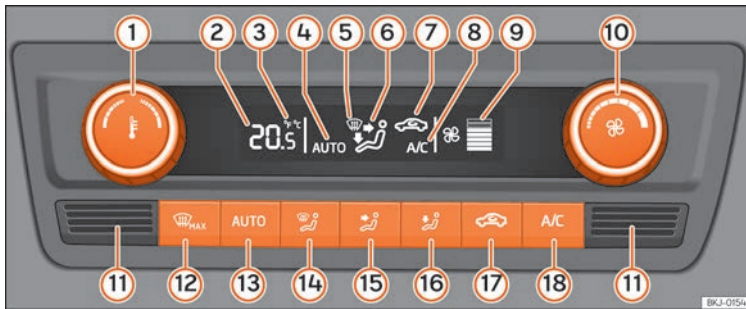

Fig. 170 Climatronic: controls.
- **A/C** »» Fig. 170 (18) turned on.
- Turn control (10) to the left until the segments of column (9) »» Fig. 170 switch off.
- Press the button **AUTO**  »» **Fig. 170**.
Keep the **AUTO** and **A/C** »» **Fig. 170** buttons held down for **2 seconds** at the same time. The data is displayed on the screen in the units required.
- **The interior temperature sensor  »» **Fig. 170** is at the bottom. Do not cover it with stickers or the like, as this could have a negative effect on Climatronic operations.**
- Press the button **AUTO**  »» **Fig. 170**, and **AUTO** is displayed on the screen.
- When you switch on the ignition, control  »» **Fig. 170** can be used to set the required interior temperature.
- Press the button   »» **Fig. 170** and the  symbol is displayed on the screen.
- Press the button   »» **Fig. 170** and the  symbol disappears from the screen.
- Turn control **10** »» Fig. 170 counter-clockwise (to lower the speed) or clockwise (to increase the speed).
- Press the button  **MAX 12** »» Fig. 170.
- Press the button  **MAX 12** »» Fig. 170 several times or press the **AUTO** button.